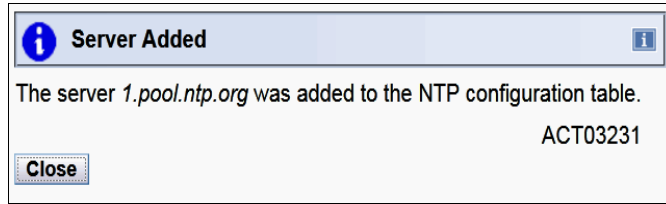

Figure 8-7 NTP server successfully added ACT03231 message
6. During this process, the HMC starts communicating with the NTP server that is specified. If NTP communication successfully completes, the window that is shown in Figure 8-7 is displayed. You can add multiple NTP servers by repeating step 4. Generally, define at least two NTP servers.